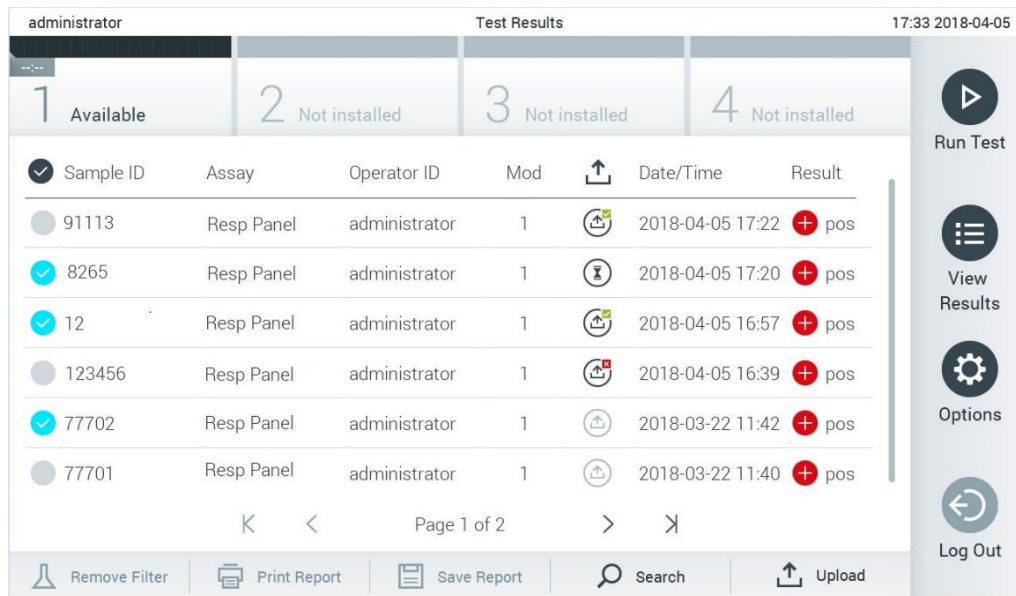

Figure 88. View Results screen.
To upload the result from the View Results screen, select one or more test results by pressing the gray circle to left of the sample ID. A checkmark will appear next to selected results. To deselect test results, press the **checkmark**. The entire list of results can be selected by pressing the  checkmark circle in the top row. After selecting the results for upload, press  Upload **Upload** (Figure 88).
**Note:** If External Control (EC) is enabled and an EC test is due to be performed, a reminder is shown to run the test with an EC sample. Users can choose to perform an EC test or dismiss the reminder.
2. Enable **EC Test** (Figure 88).
3. When prompted, scan the sample ID barcode using the bar code reader that is integrated into the Operational Module (Figure 88)